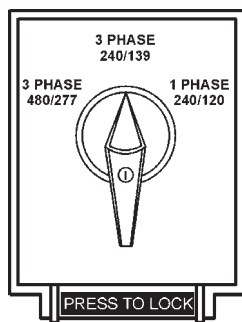

Figure 19. Voltage Selector Switch 240/139V Three-Phase Position
1. Place the voltage selector switch in the 3Ø 240/139 position as shown in Figure 19.